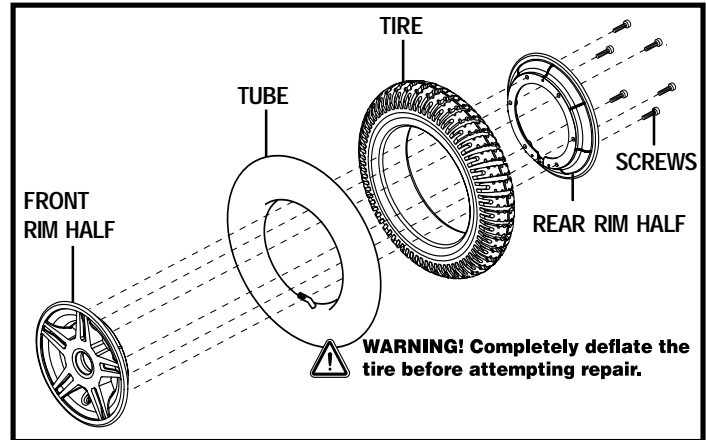

Figure 22. Jazzy Select 14 Drive Wheel
6. Remove the screws that fasten the two rim halves together. See figure 22.